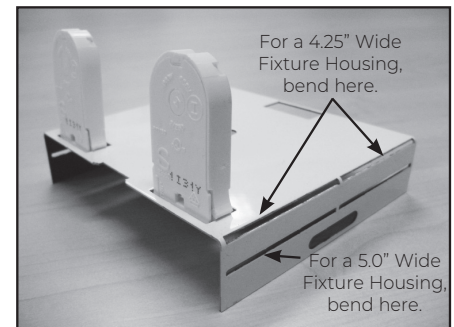

Figure 2. Fixture Bracket Socket Plates for Installation on a 4.25" wide Luminaire Housing.
5. Check the width of the fixture housing! If the fixture housing is 4-inches wide, bend the socket plate at the points as shown in Figure 2. If the fixture housing is 5-inches wide, bend the socket plates at the points shown in Figure 2.